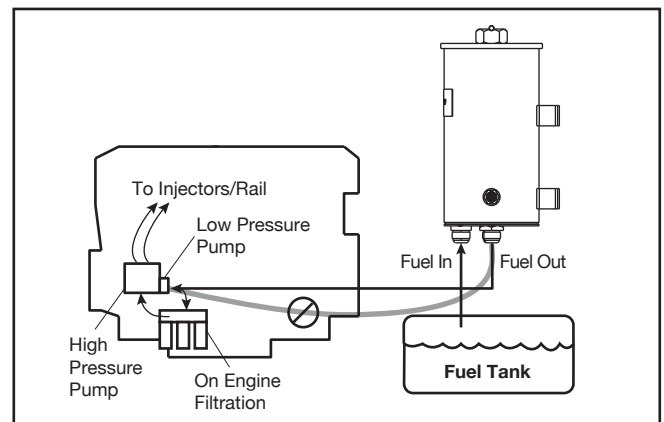

Figure 1 - Sea Pro Connections
4. Route the fuel supply line from the fuel tank to the Sea Pro inlet (see Figure 1). Route a fuel line from the Sea Pro outlet to the fuel pump inlet.